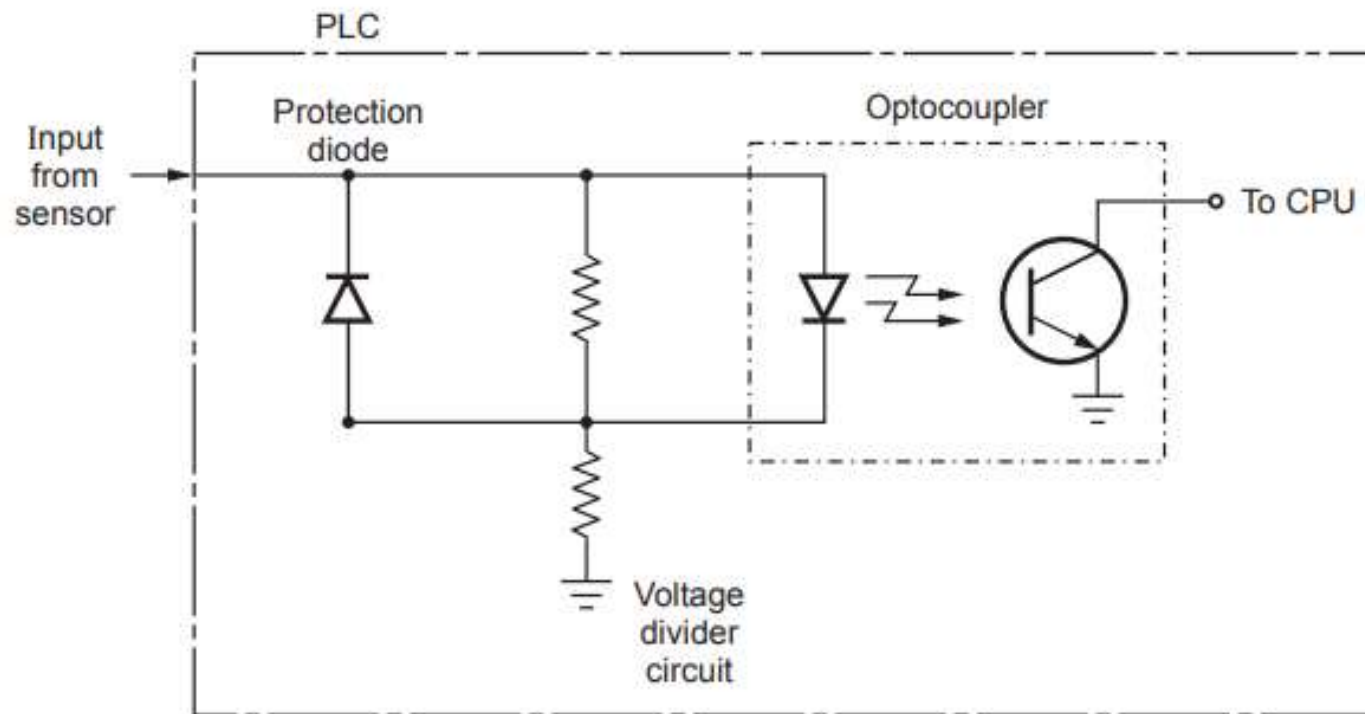

Fig. 4.10.1 Input channel protection
- For input channel usually an optocoupler is used for isolation purpose. And for protection of input module voltage divider circuit and a protection diode is used as shown in Fig. 4.10.1.